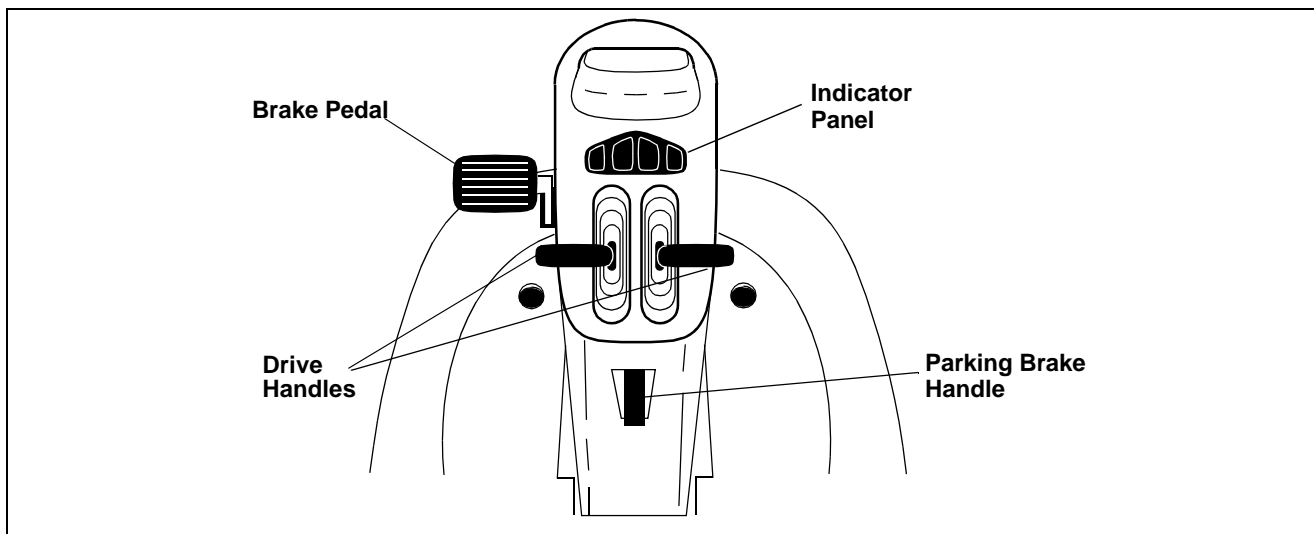

Figure 8
The Parking Brake Pedal is located on the left running board next to the Control Tower. (See Figure 8) It is used to engage the Parking Brake. Engage the Parking Brake when the unit is not in use.
The Drive Handles (Left and Right) are located at the top of the Control Tower. (See Figure 8) The drive handles are used to move, (propel) steer and stop the Z-series. The drive handles will return toward the neutral position without driver input. However, the driver should place the Drive Handles in the neutral position. Unless the Drive Handles are placed in the neutral position the Z-Series may creep. When the Drive Handles are in the neutral position the unit does not move.
2. Push down on the Parking Brake Handle in the middle of the Control Tower to lock engagement. (See Figure 8)